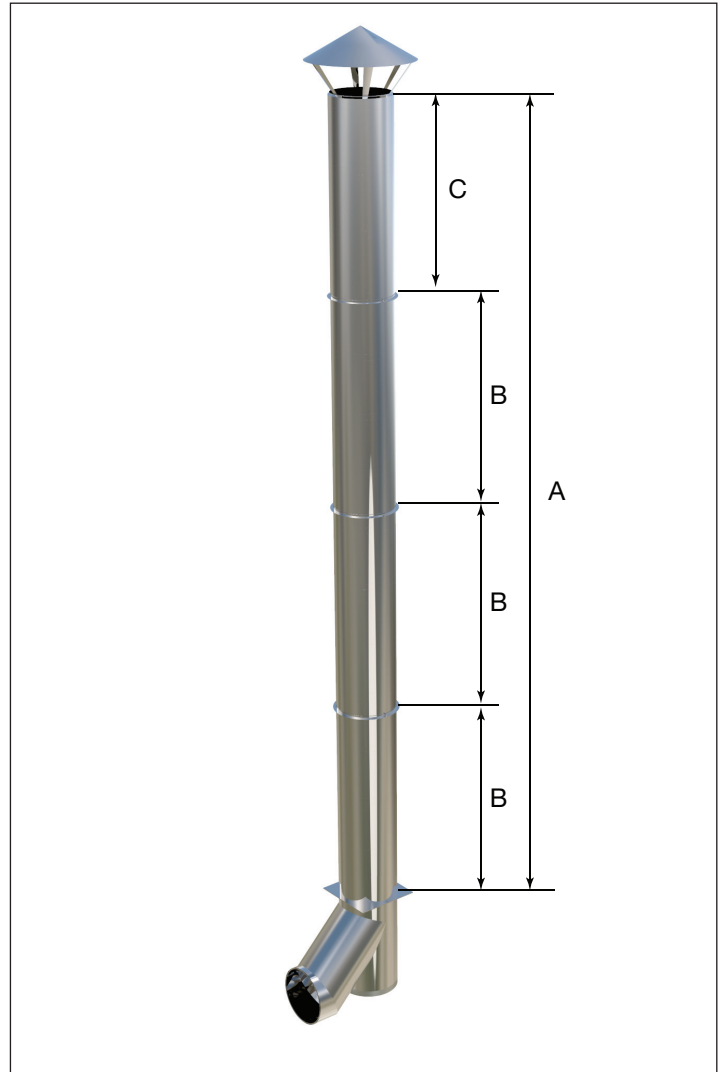

Fig. 1-1: Support Distances
2. Position both faces of U-band together and LOOSELY connect one side with (2) bolts and nuts (supplied).
5. Connect open end of U-band with (2) nuts and bolts (supplied) to snug fit, tighten previously attached side of U-band and alternate tightening sides until an even, tight application is achieved.
6. For EPS1, EPS2 and EPS4 models (insulated), insert the supplied insulation strip around the inner joint assembly as shown in Fig 1-1. Secure insulation strip with tape (or similar) to keep insulation strip in position while completing joint assembly.